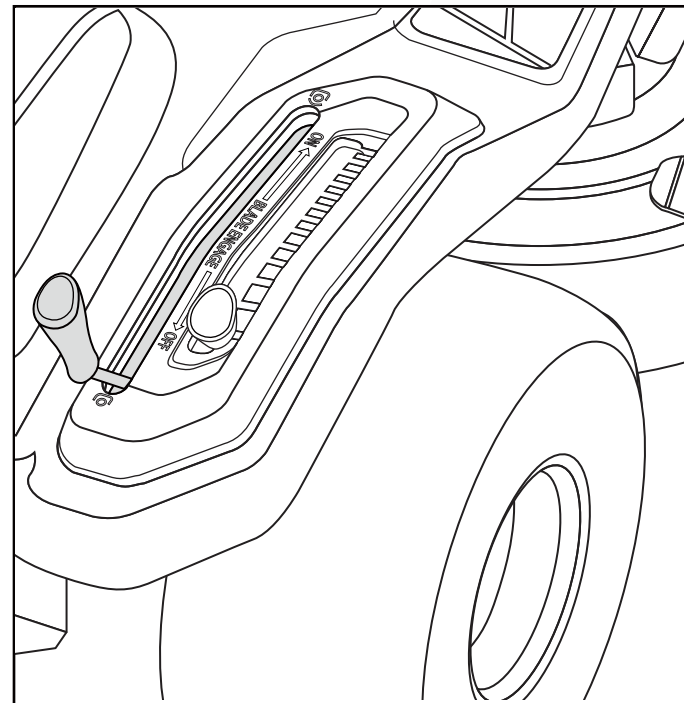

Fig. 21
- Move the lever all the way backward. (Fig. 21)